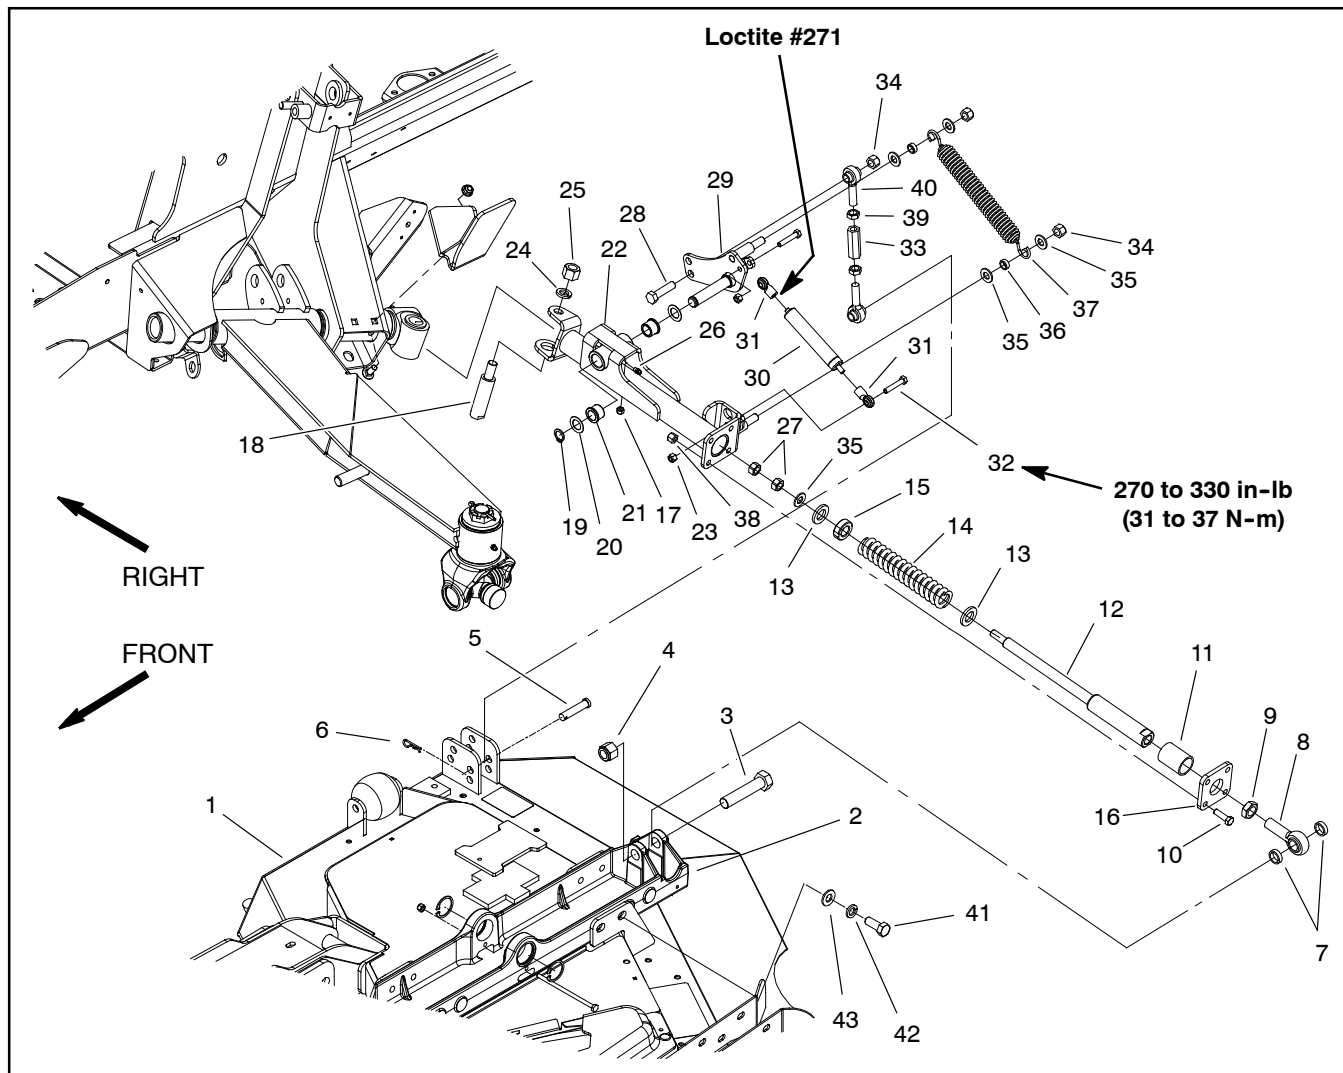

Figure 9
Rear Arm Removal (Fig. 9)
Rear Arm Disassembly (Fig. 9)
1. Disassemble rear arm assembly using Figure 9 as a guide.
Rear Arm Assembly (Fig. 9)
Rear Arm Installation (Fig. 9)